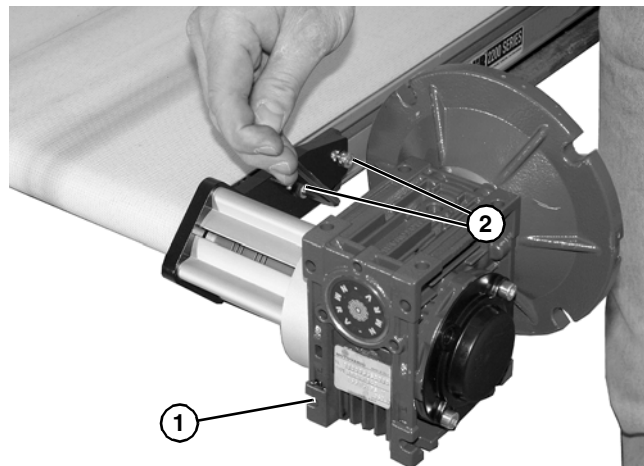

Figure 20
- Slide coupling over drive output shaft and install gear reducer assembly (**Figure 20, item 1**) with screws (**Figure 20, item 2**). Tighten to 80 in-lb (9 N-m).
2. Remove two (2) screws (Figure 20, item 2). Remove drive assembly (Figure 20, item 1).